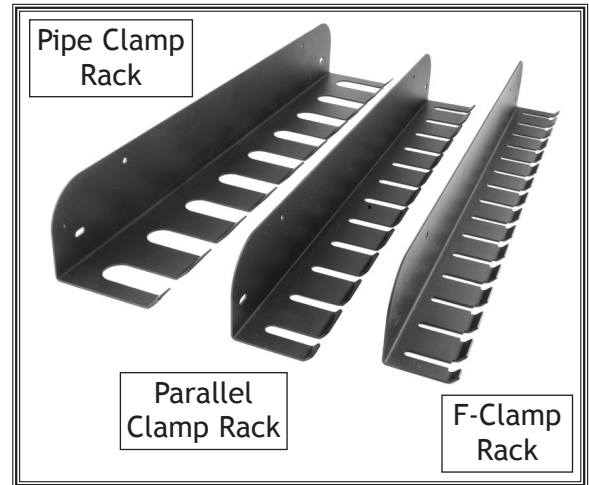

Figure 1. Model D4333 Inventory.
The **D4333 Hanging Clamp Rack Combo Set** (pictured in **Figure 1**) includes (1) Pipe Clamp Rack, (1) Parallel Clamp Rack, and (1) F-Clamp Rack.